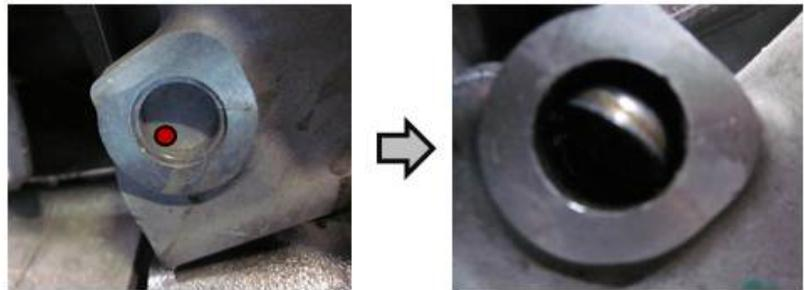

Figure 11. Marked area on main port of freeze plug.
7. Remove main port freeze plug by hitting the marked area with a small punch until it turns (Figure 11). Remove with pliers.